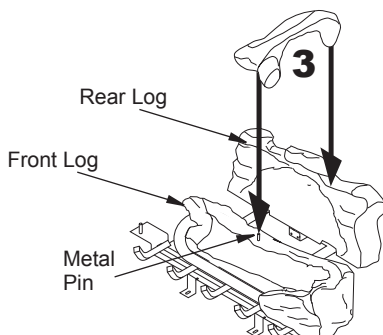

Figure 29 - Installing Log No. 3
3. Place log #3 (crossover log) onto rear and front logs. Make sure it is seated properly on surface of rear log and pin on front log as shown in Figure 29.